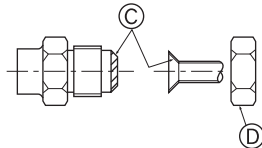

Fig. 4-2
Ⓐ (Fig. 4-2)
Ⓑ (Fig. 4-2)
4.2. Connecting pipes (Fig. 4-2)